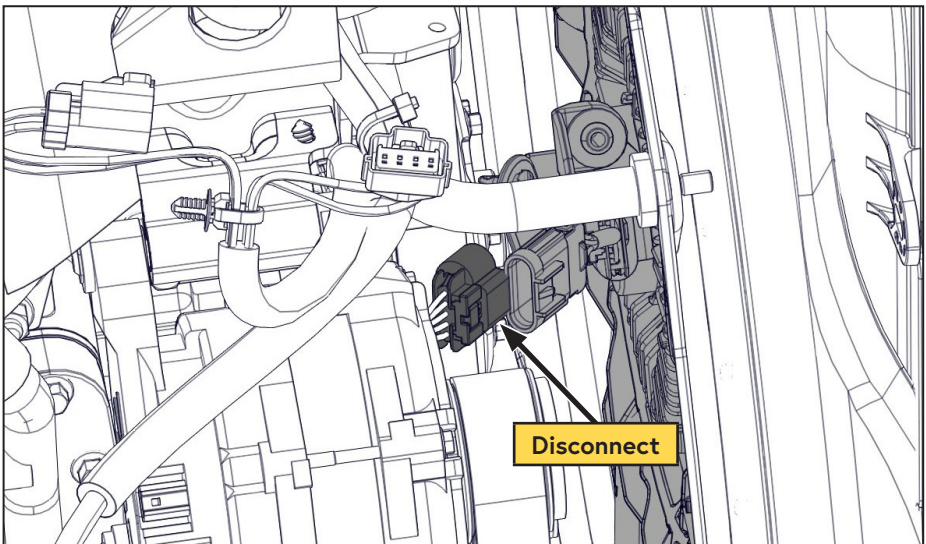

Figure 4 — Radiator fan harness connector
- Disconnect the clutch fan harness connector and the stator brace (Figure 4).